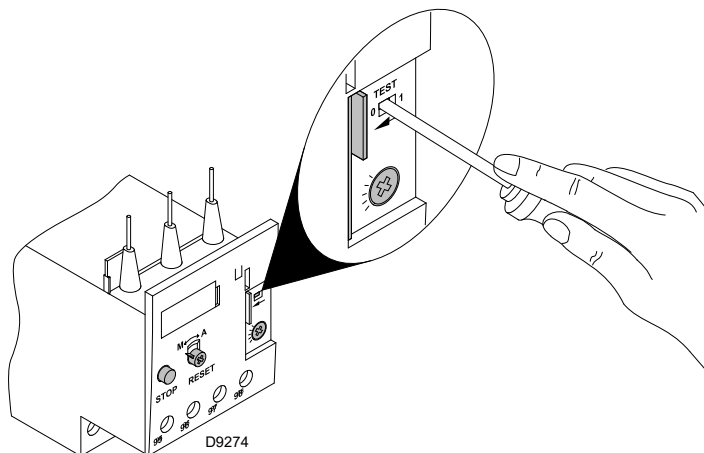

Fig. 30
- To test the overload relay, insert a screwdriver in the window **"TEST"** (Fig. 30) and move it in the sense of the arrow (towards right).